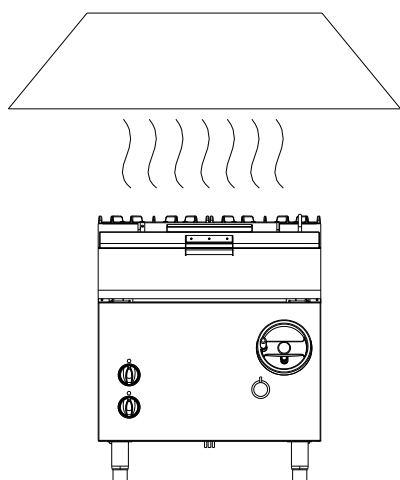

Figure 1
- In order to prevent smell and fume formation, place the device beneath an exhaust hood being capable of enough ventilation. (Figure 1)